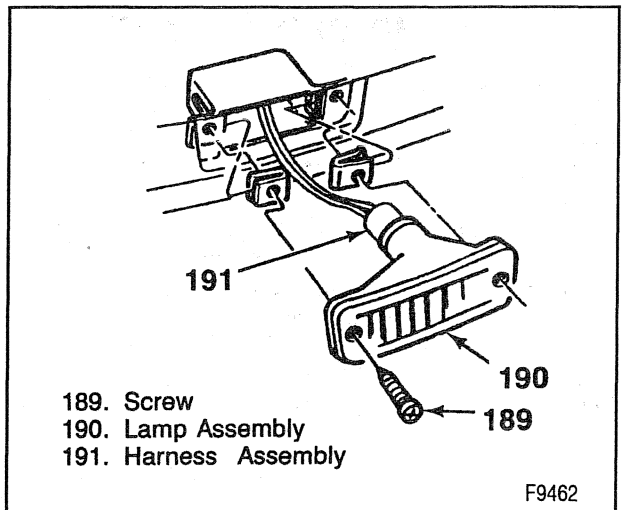

Figure 22—Rear Fender Marker Lamps with Dual Rear Wheels
- ↔ Remove or Disconnect (Figure 22)
Install or Connect (Figure 22)